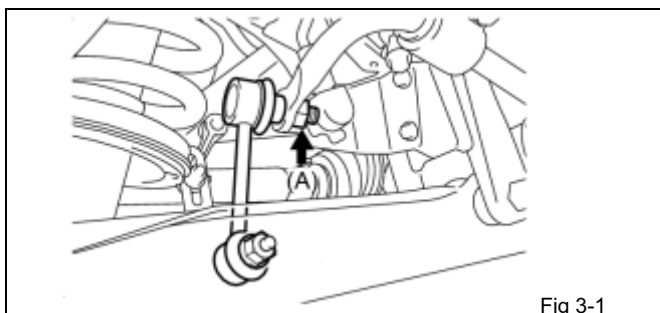

Fig 3-1
- (a) Disconnect sway bar links. (Fig 3-1)